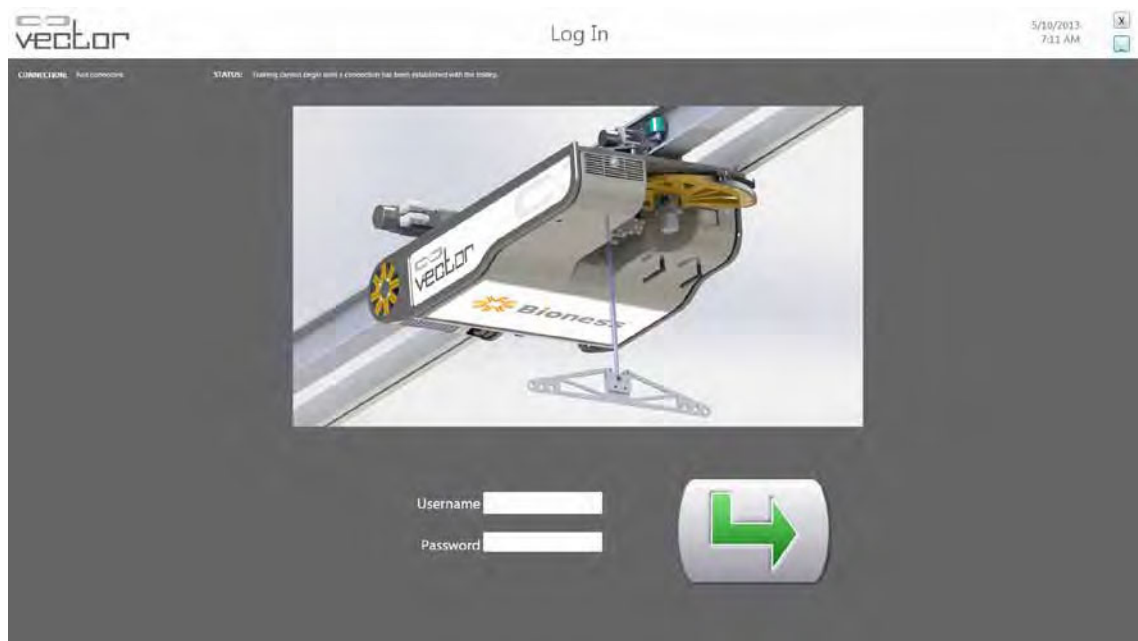

Figure 8-1: Log In Screen
1. Log In to the Vector Elite Software with an Administrator log in. See Figure 8-1.